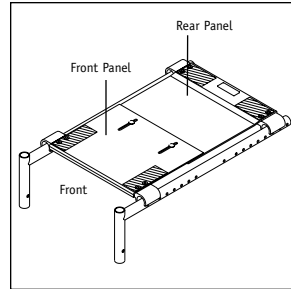

Figure 1
- To remove, grasp front of seat pan where indicated in Figure 1 and firmly pull upward until seat mounting clips disengage from the frame.